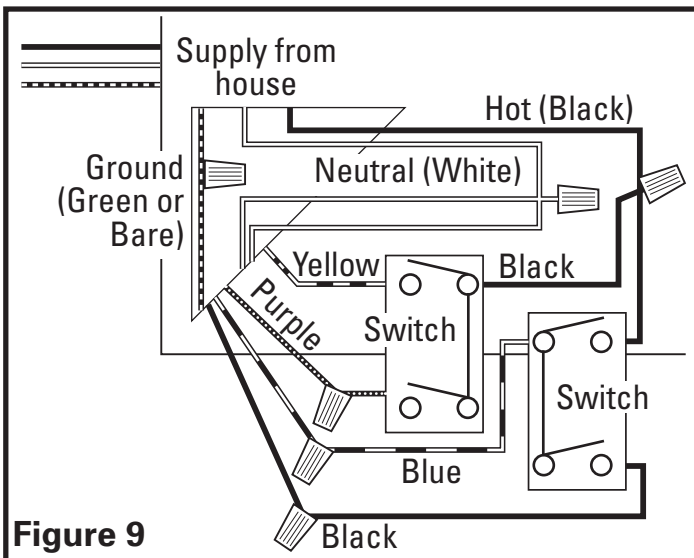

Figure 9
3. **Intermittent Ventilation:** For two speed fans wired for intermittent ventilation with the recommended AKS4 switch (not included). Properly ground the switches. Run a wire from the Blue wire in the fan to the Common terminal of one of the switches. Connect the Black wire from the power source to the top terminal of the switch. This will turn the fan on and off. Run a wire from the Black wire in the fan to the bottom terminal of the same switch. This is the fan speed control and closing the switch will change from normal to high speed. On the second switch run a Black (Hot) wire from the supply to the common terminal of the switch. On the same switch run a wire from the Yellow wire in the fan to the top terminal of the switch. This is the light control. Run a wire from the Purple wire in the fan to the bottom terminal of the switch you just connected the yellow wire to. This is the night light control (**Figure 9**).